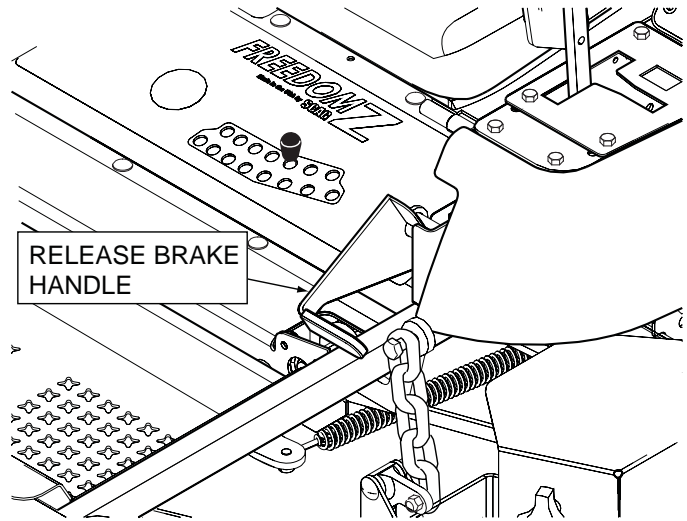

Figure 6-1. Brake Adjustment
2. Disengage the parking brake. (See Figure 6-1).